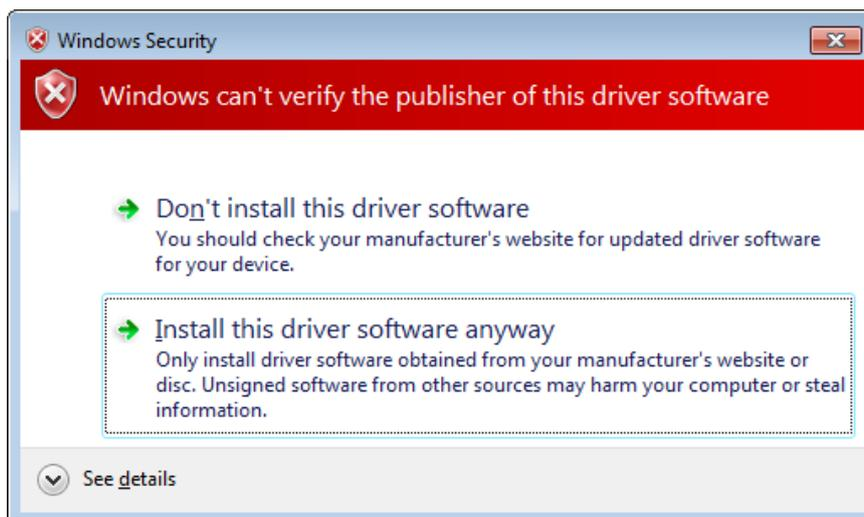

Figure 1-1
- 7、 Waiting done. If following page appear (Figure 1-1), please select **Install this driver software anyway**.